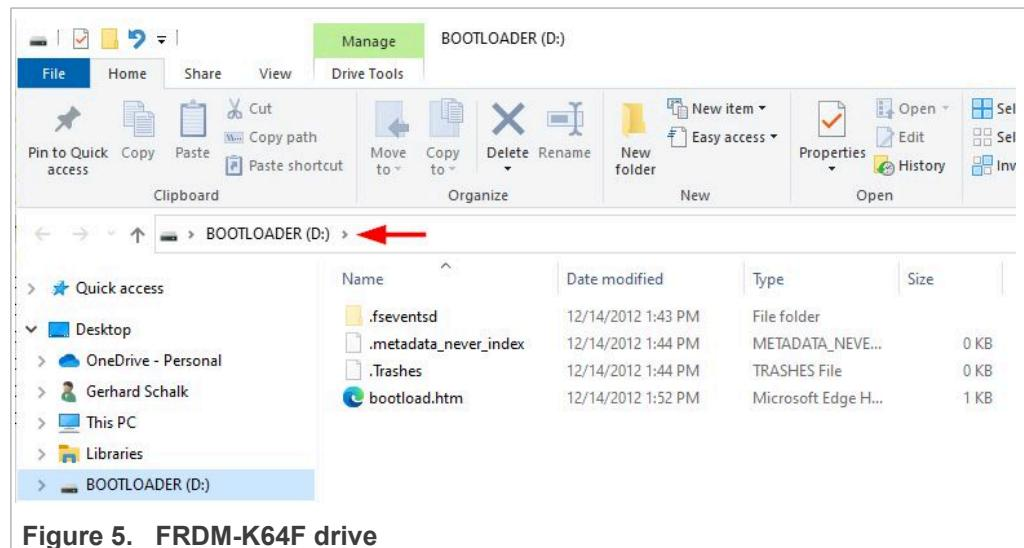

Figure 5. FRDM-K64F drive
2. When you plug the board, your laptop should recognize the board as an external drive as shown in Figure 5: